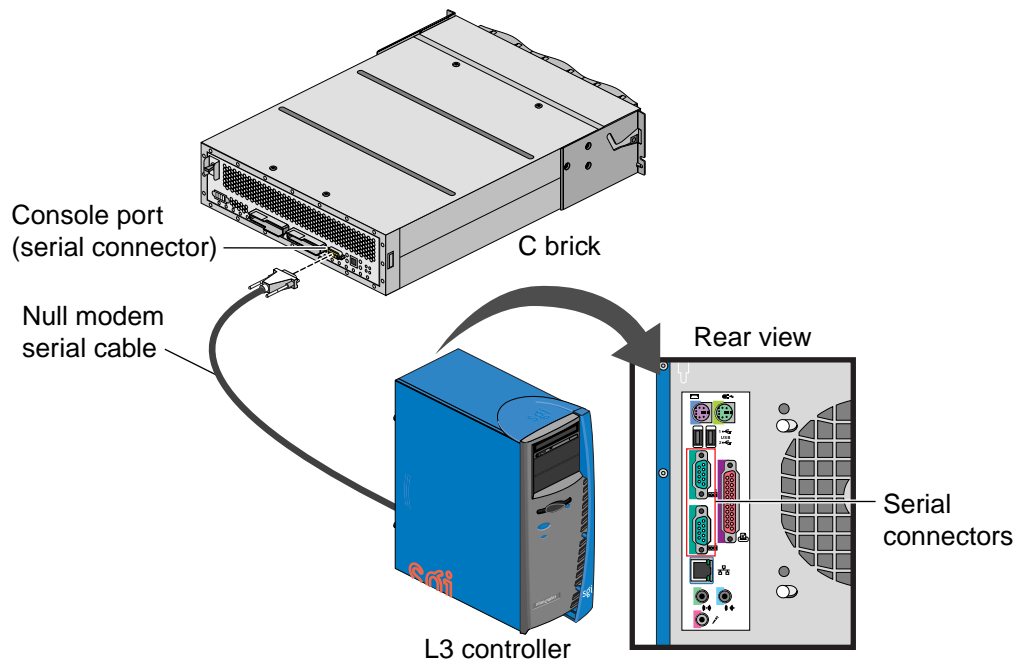

Figure 1-7 SGI Origin 3400/3800-to-L3 Physical Connections (Serial)
3. Connect a null modem serial cable from the L3 serial connector to the console port at the rear of the C brick. Refer to Figure 1-7.
Note: Figure 1-7 shows a serial connection to a Silicon Graphics 230 visual workstation-based L3 controller solution. The connection is identical for Customer Service laptop-based L3 controller solutions; use the same cable to connect to the serial port on the laptop.